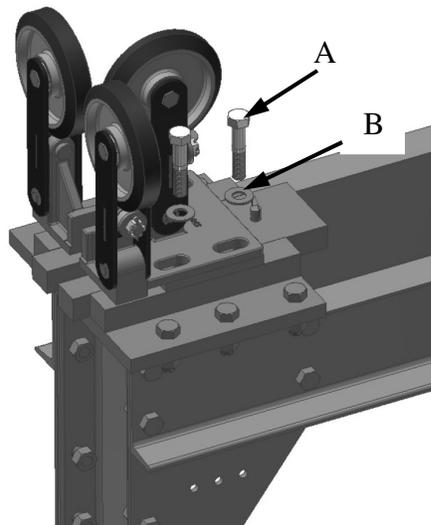

Figure 5
- After the rail lock is mounted to the car sling, mount the guide shoes to the rail lock. To mount the guide shoes, remove the bolts and washers, items "A" and "B", from the top plate of the rail lock and place the shoe on the top plate. Re-install the bolts and washers, items "A" and "B", through the guide shoes and secure them. Refer to Figure 5.
- Once the car is in position, locate one of the rail locks. (There will be a rail lock under each upper car guide shoe.) Refer to Figure 5.